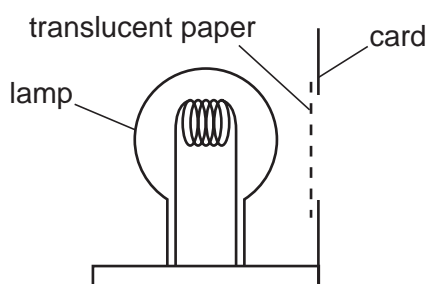
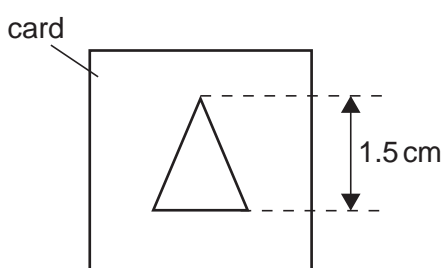

Fig. 4.1
Fig. 4.2
- (ii) Illuminated object with a triangular hole of height approximately 1.5 cm (see Fig. 4.1 and Fig 4.2). The hole is to be covered with thin translucent paper (e.g. tracing paper).